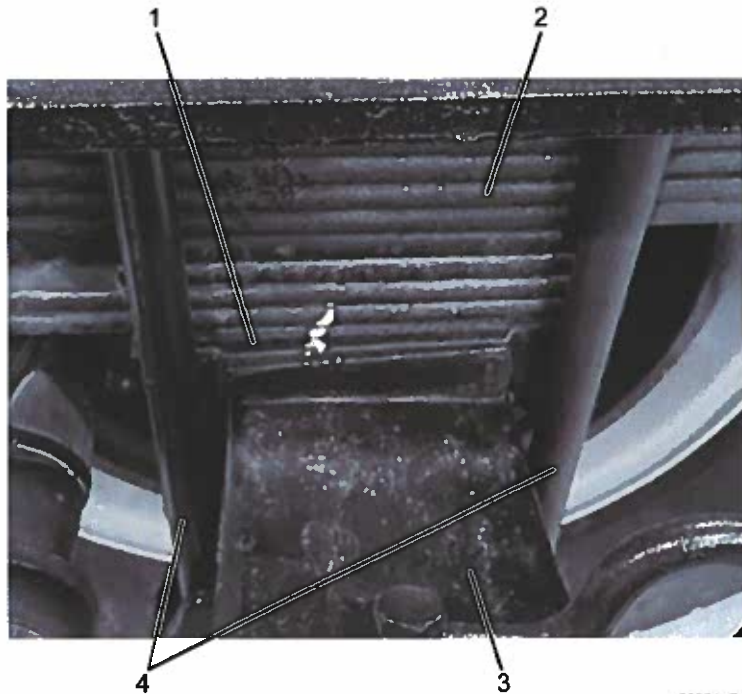

Figure 2. Correct Wedge Shim Orientation
4. U-bolt (2)
10. Rotate spring wedge shim 180-degrees to orient thick portion of spring wedge shim towards front of vehicle (Figure 2, Item 1).
11. Reinstall spring wedge shim (Figure 2, Item 1) and if removed in Step 8, reinstall U-bolt (Figure 2, Item 4).
12. Using jack, raise axle (Figure 2, Item 3) into position with leaf spring (Figure 2, Item 2) and slightly compress spring.